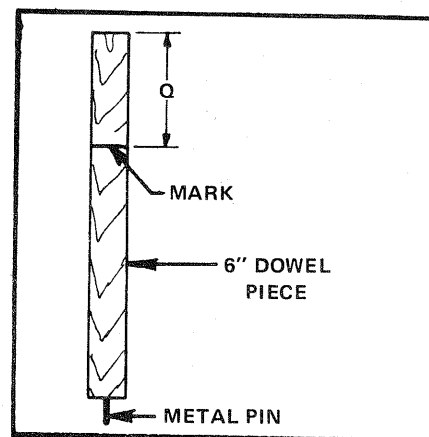

FIGURE 6-12 Measure dimension Q and mark the Dowel.
D. Remove the 6" Dowel piece from the Solenoid assembly, refer to the measurement on Line Q under this Step on the Check List and use the measurement to mark the Dowel as shown in FIGURE 6-12 (dimension Q). Trim the Dowel at the mark, insert the Dowel in the coupler on the Solenoid, and remove the punchings from the SUS Pedal Dowel and place them on the pins on the Solenoid Dowels.